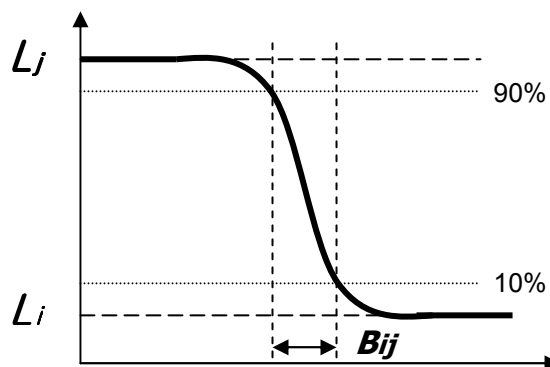

FIG. 4 MPRT
5. MPRT is defined as the 10% to 90% blur-edge width  $B_{ij}$ (pixels) and scroll speed  $U$ (pixels/frame)at the moving picture. For more information, see FIG 4.